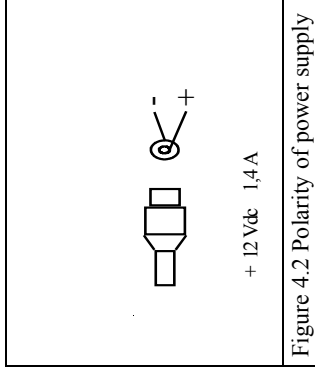

Figure 4.2 Polarity of power supply
- o When using a different power supply, always check that its rating matches safety and electric specifications (12 Vdc – 1A) (EC marking) and that the polarity of connectors is followed (Figure 4.2 power supply).